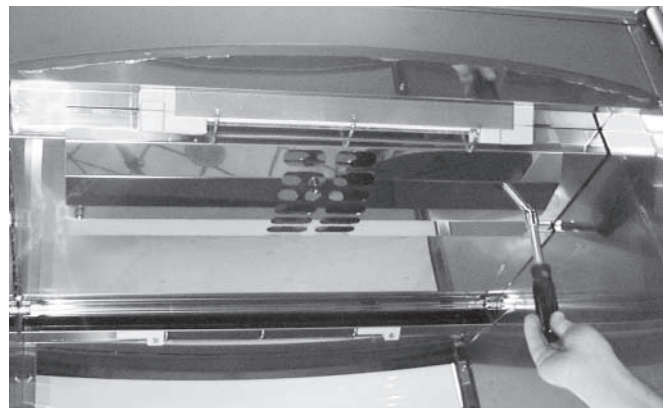

Fig. 45
2. Remove the vent-grate: Use a $\frac{7}{16}$ " nutdriver to unscrew two $\frac{7}{16}$ " nuts, one on each side of the vent (Figs. 45, 46).